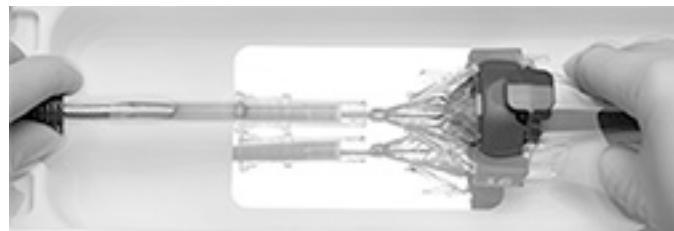

Figure 17
11. Retract the catheter tip guide tube to set the bioprostheses frame paddles into the paddle attachment pockets (Figure 17).